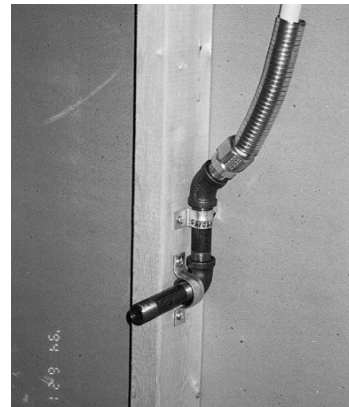

Fig. 4-38
- c) Stub-outs (Fig. 4-38) – Gastite®/FlashShield® CSST connections to stub-outs fabricated from approved fuel gas piping materials.